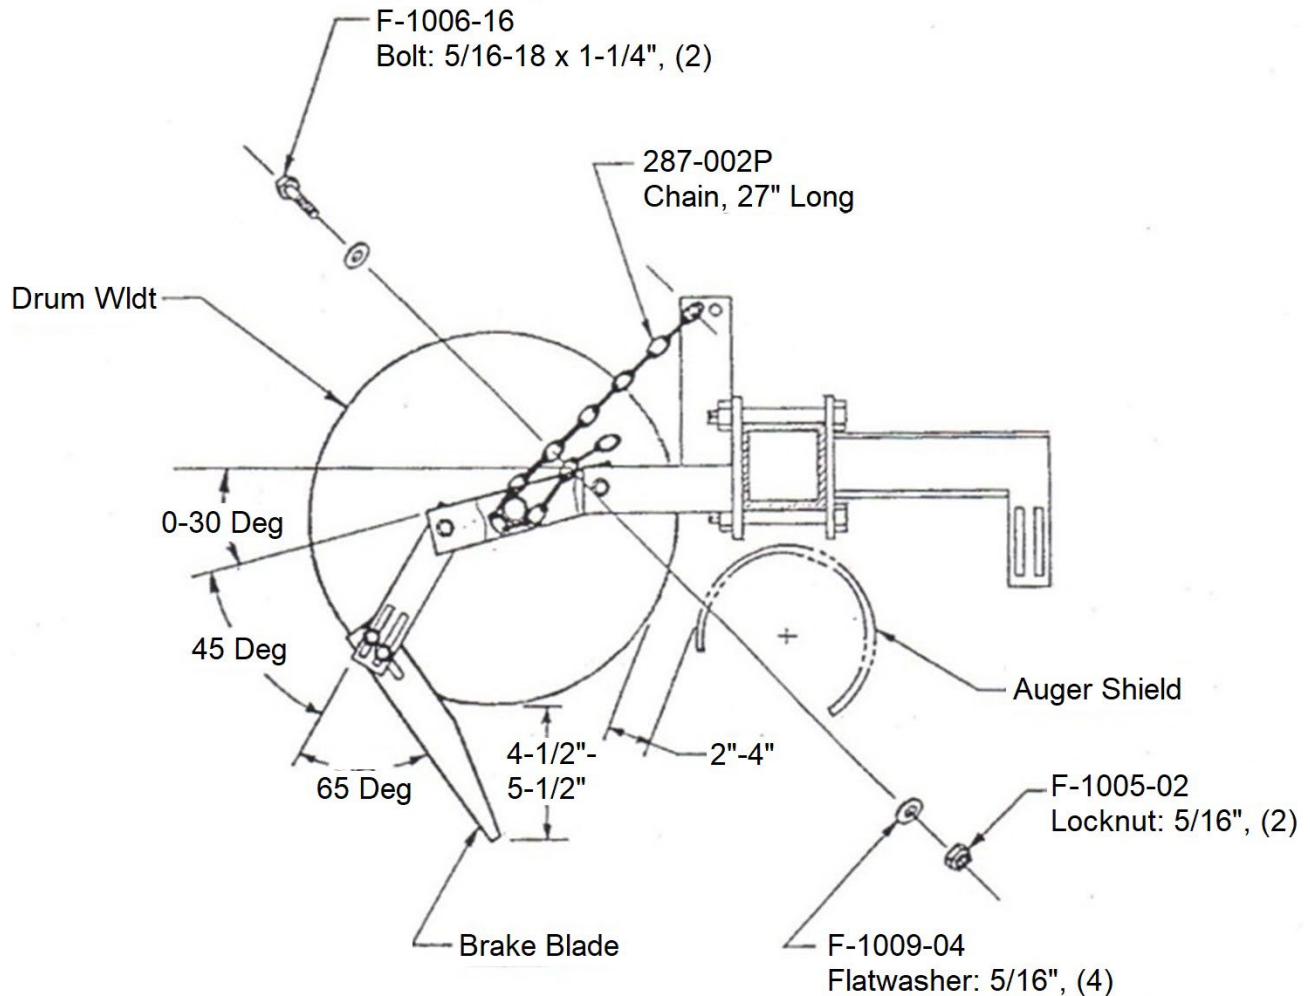

Fig 11.7
Note: the Drum must rotate smoothly. Fig 11.7, p.40.
**11g. Install Chain and Adjust Brake Components.** Place one end of the Chain around tube of the Brake Arm Weldment and fasten as shown in Fig 11.7. Bolt the other end of the Chain to the bracket so Drum is 2-4" from the auger Shield when all the way down.
**11h. Tighten the Brake Arm Bolts** at the approximate angle shown and tighten bolts securely. (See Fig 11.7)